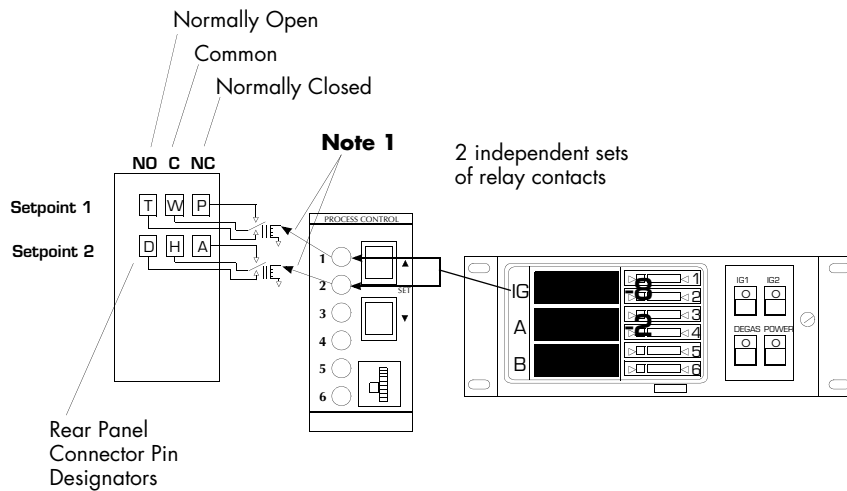

Figure 2-6 Two Channel Process Control - Cat. No. 370108
2. Use the catalog number on the rear of the Process Control module together with Figures 2-6 and 2-7 to identify the process control capability installed in your unit.